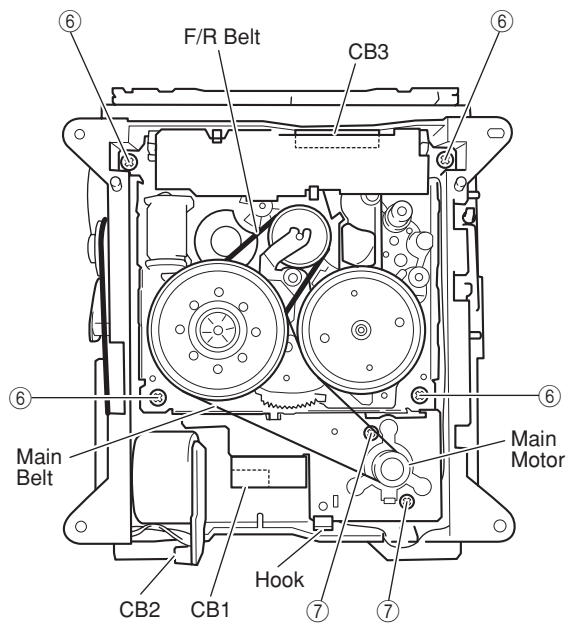

Fig. 3
- Disconnect 3 connectors (CB1, CB2 and CB3) in Fig. 3.
- a. Remove 4 screws (⑥) in Fig. 3.
- b. Detach the hook in Fig. 3 and then pull out the Cassette Mechanism.
Remove 2 screws (⑦) in Fig. 3.